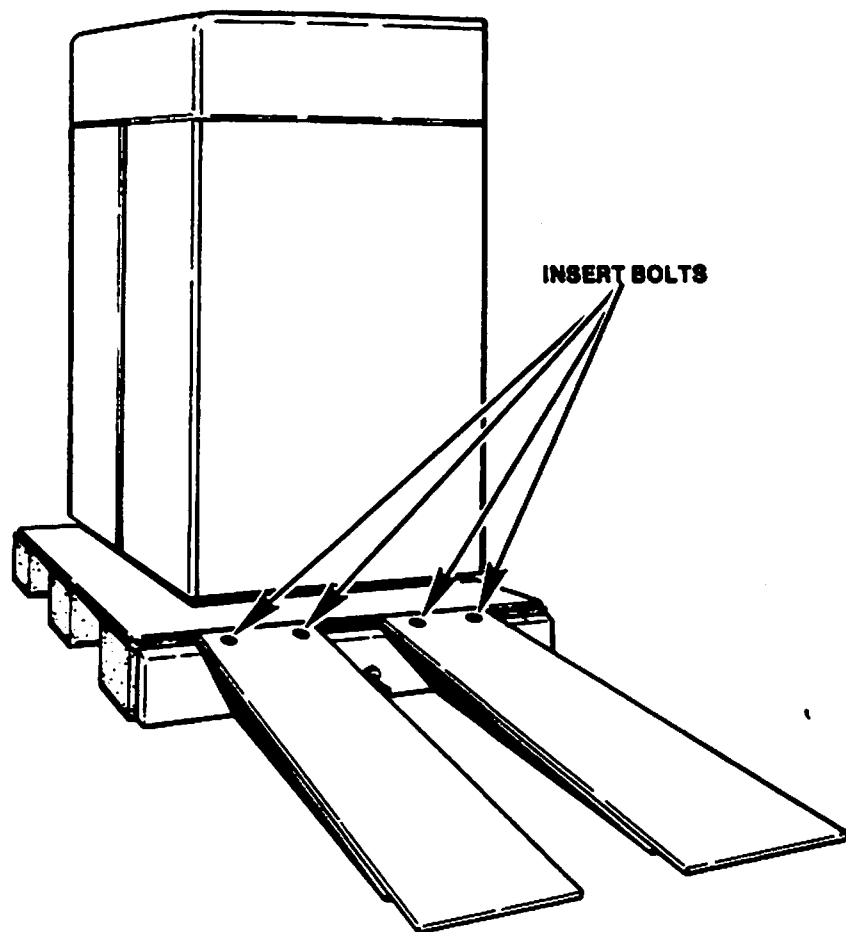

FIGURE 3
5. Place plywood ramps as shown in Figure 3, and secure in place with the shipping bolts retained from step 4.